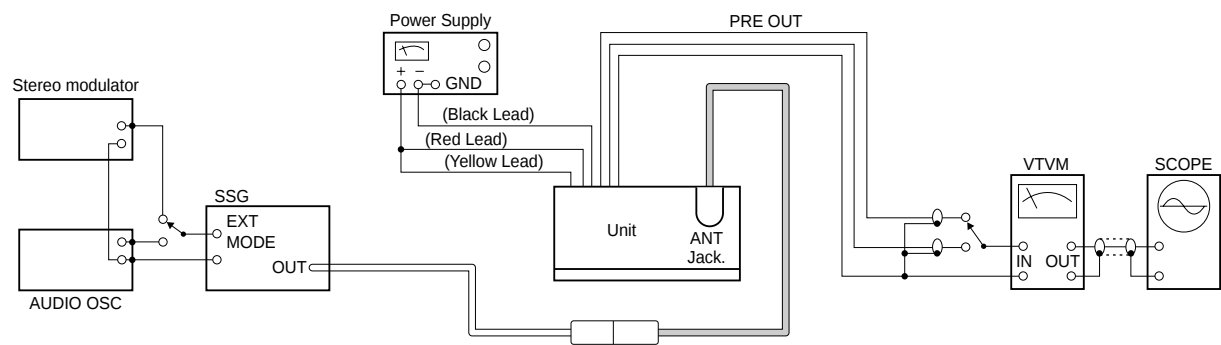

Figure 3.
- 4. Connect as shown in figure 3.